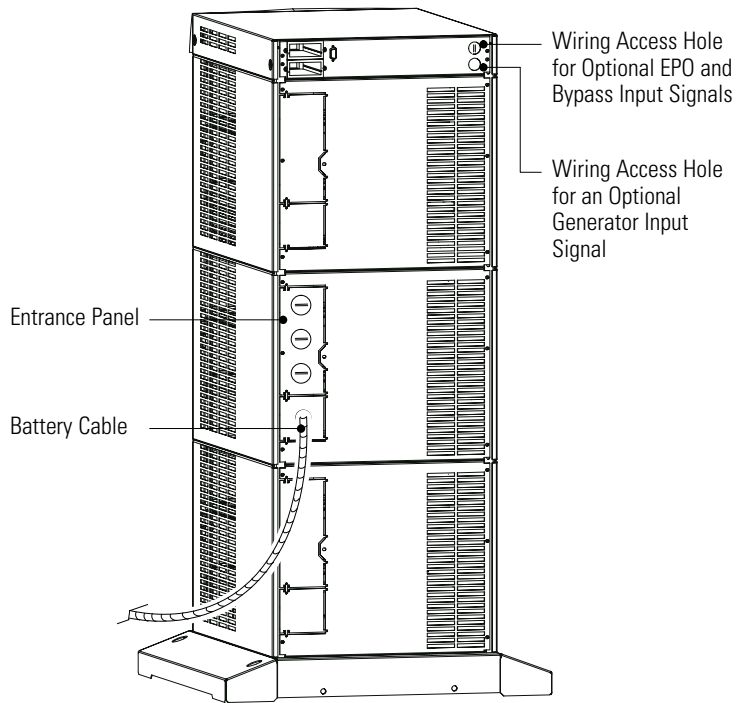

Figure 21. UPS Power Entrance Panel
3. Remove the rear panels of the UPS (top panel on 3- or 6-slot; top 2 panels on 9- and 12-slot) as shown in Figure 21.
The entrance panel contains knockout openings for entrance and exit conduits and for conduit to an optional external battery cabinet. The entrance panel is located on the top 3-slot section for 3- and 6-slot cabinets; on the second section for 9- and 12-slot cabinets as shown in Figure 21.